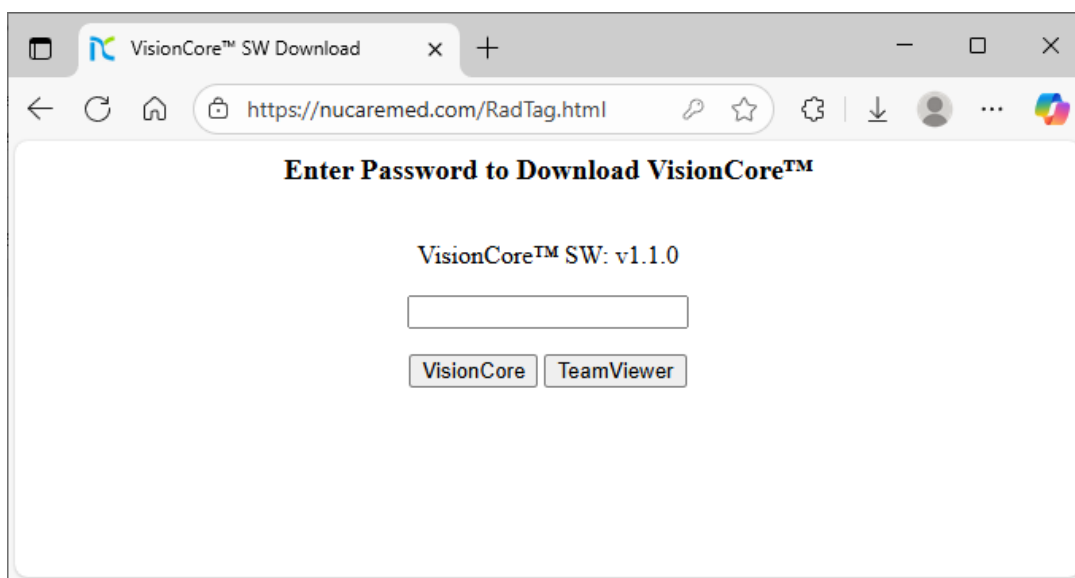

Figure 14. VisionCore™ SW download page
4. Click the **VisionCore™ SW** link (see *Figure 14*).